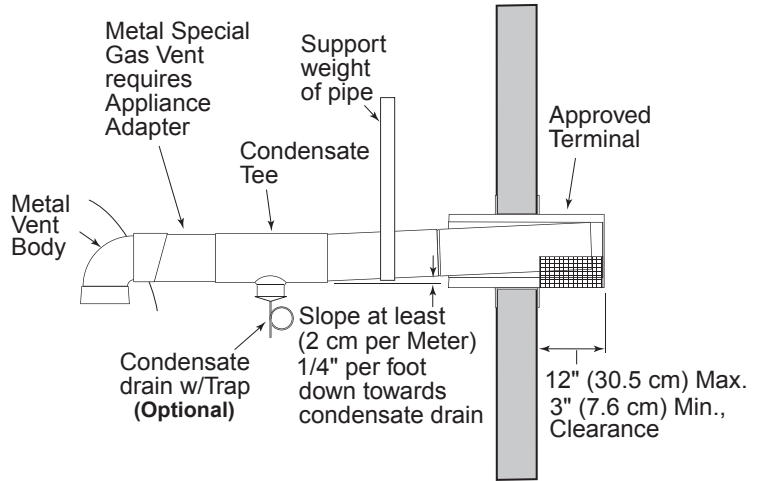

Figure 18.
- at least 76 mm (3 in) and at most 304 mm (12 in) out from the wall (see Figure 18), following the vent manufacturer’s instructions